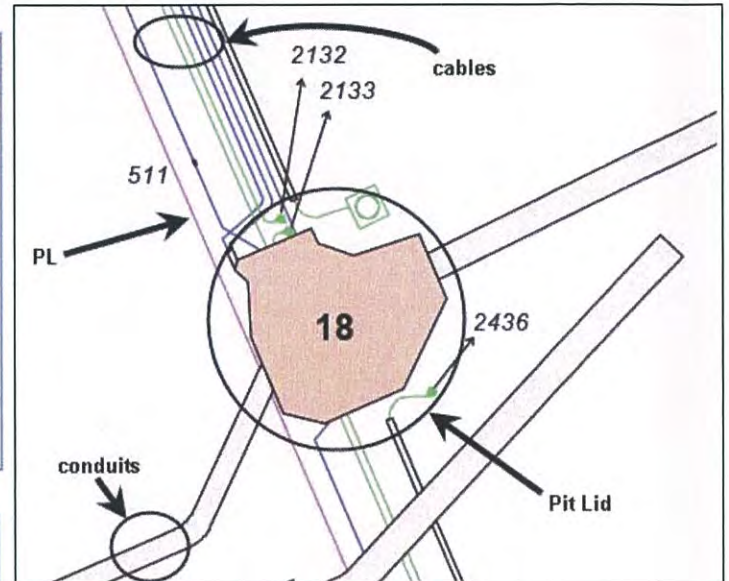

Figure 8
Underground “pits” are numbered on Ausgrid plans, positioned relative to the “property line” (PL), and can be found on either the footpath (nature strip) or the road (see figure 8).